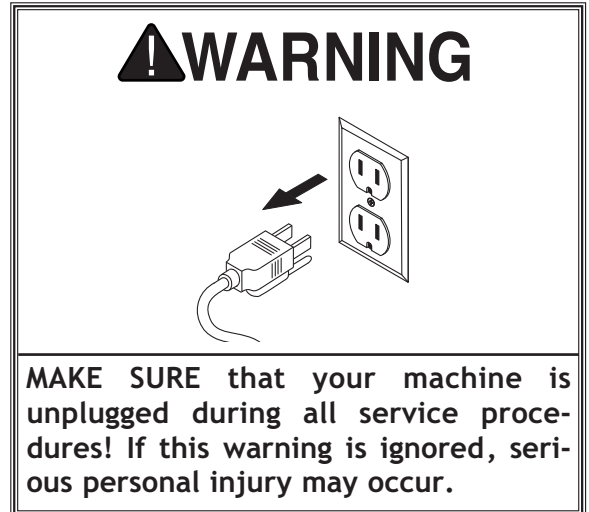

Figure 36. Belt tension controls.
3. Loosen belt-tension lock handle, then push down on belt-tension lever and tighten belt-tension lock handle (see Figure 36).